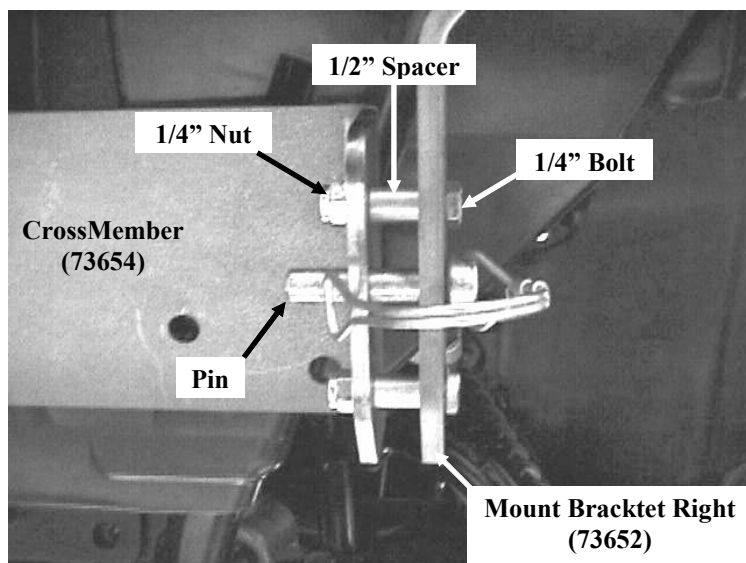

Figure 2
2. Place the crossmember (73654) between the two brackets. Insert the plow mounting pins, this will help align the mount. The top holes on the crossmember should be toward the front of the bike. Using four 1/4" bolts and nuts, attach the crossmember the brackets. Each bolt will go through a 1/2" spacer positioned between the crossmember and the brackets as shown in figure 2. Tighten all bolts down snugly.
- Slide the plow into position with the tubes under the ATV. Lift the end of the tube assembly into position so the holes in the Tube Wings line up with the 3/8" holes in the frame brackets (Figure 2). A Phillips head screwdriver may be used to align the holes. Insert both 3/8" pins and hook the retaining clips on the ends of the pins to secure the plow to the ATV.